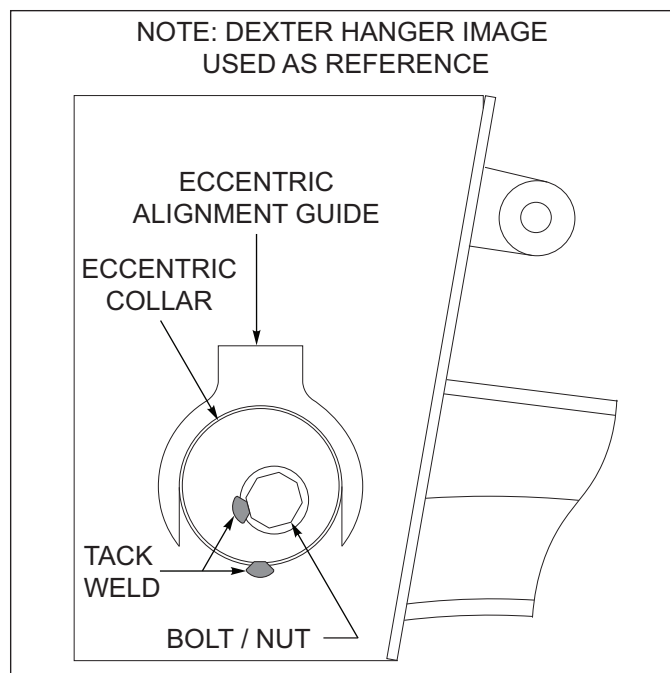

Figure 5-10: Streetside Suspension Hanger
6. Align if measurements require. Break welds between hanger mount, eccentric collar, pivot nut, and if present the jam nut on the curbside and streetside suspension pivot hardware. Rotate the curbside and streetside suspension eccentric pivot bolts forward or backwards to obtain alignment. Remeasure and repeat Step 5 until measurement is achieved. **See Figure 5-10.**
8. Place tack welds in easily accessible spots inside and outside between the bolt/nut and eccentric collar, then between the eccentric collar and hanger mount on the curbside and streetside suspension pivots. If present, tack the jam nut to the nut. **DO NOT** weld on the hanger eccentric alignment guide. **See Figure 5-10.**
3. Align if measurements require. Break welds between hanger mount, eccentric collar, pivot nut, and if present the jam nut on the curbside and streetside suspension pivot hardware. Rotate the curbside and streetside suspension eccentric pivot bolts forward or backwards to obtain alignment. Remeasure and repeat Step 5 until measurement is achieved. **See Figure 5-10.**
5. Place tack welds in easily accessible spots inside and outside between the bolt/nut and eccentric collar, then between the eccentric collar and hanger mount on the curbside and streetside suspension pivots. If present, tack the jam nut to the nut. **DO NOT** weld on the hanger eccentric alignment guide. **See Figure 5-10.**
3. Align if measurements require. Break welds between hanger mount, eccentric collar, pivot nut, and if present the jam nut on the curbside and streetside suspension pivot hardware. Rotate the curbside and streetside suspension eccentric pivot bolts forward or backwards to obtain alignment. Remeasure and repeat Step 5 until measurement is achieved. *See Figure 5-10.*
5. Place tack welds in easily accessible spots inside and outside between the bolt/nut and eccentric collar, then between the eccentric collar and hanger mount on the curbside and streetside suspension pivots. If present, tack the jam nut to the nut. **DO NOT** weld on the hanger eccentric alignment guide. *See Figure 5-10.*